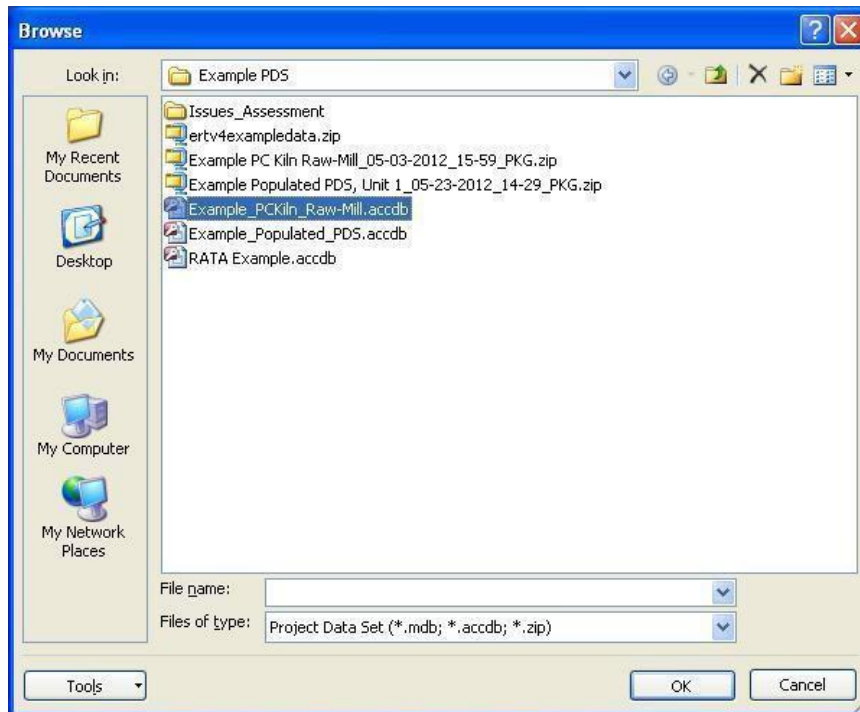

Figure 5 - Select Project Data Set Browse Window
- Click “**Select Project Data Set**” from the *project data set* area of the ERT Main Menu. A “**Browse**” menu like shown in Figure 5 will appear.